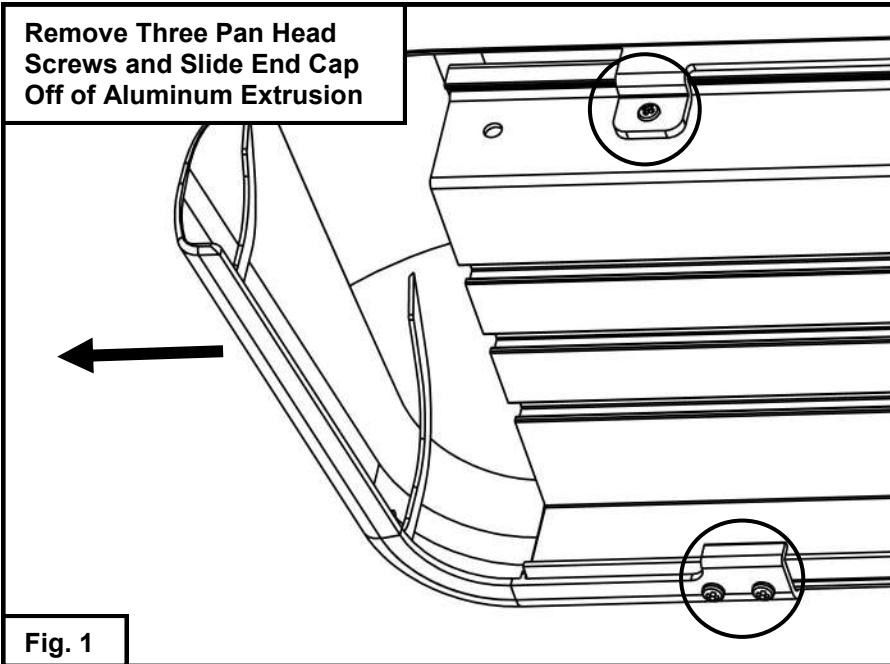

Fig. 1
1. Remove one of the End Caps (1 or 2) by removing the three M4 pan head screws (7) from the back and bottom of the End Cap and sliding the End Cap off of the Aluminum Extrusion (3). See **Figure 1**.